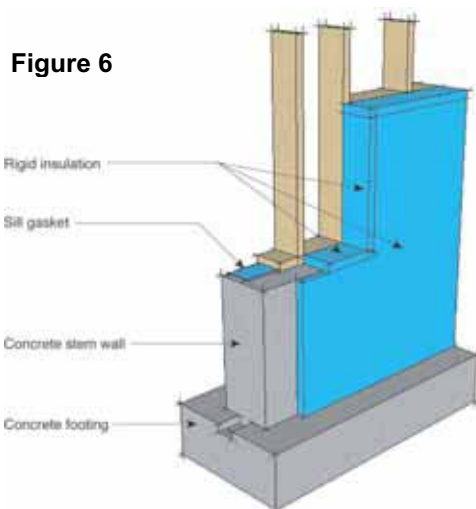

Figure 7
- **Eave insulation** – the spray foam insulation stop between rafters in the roof assembly can be either blocking (see **Figure 7**) or rigid insulation from the wall cut out to extend up and between each rafter.